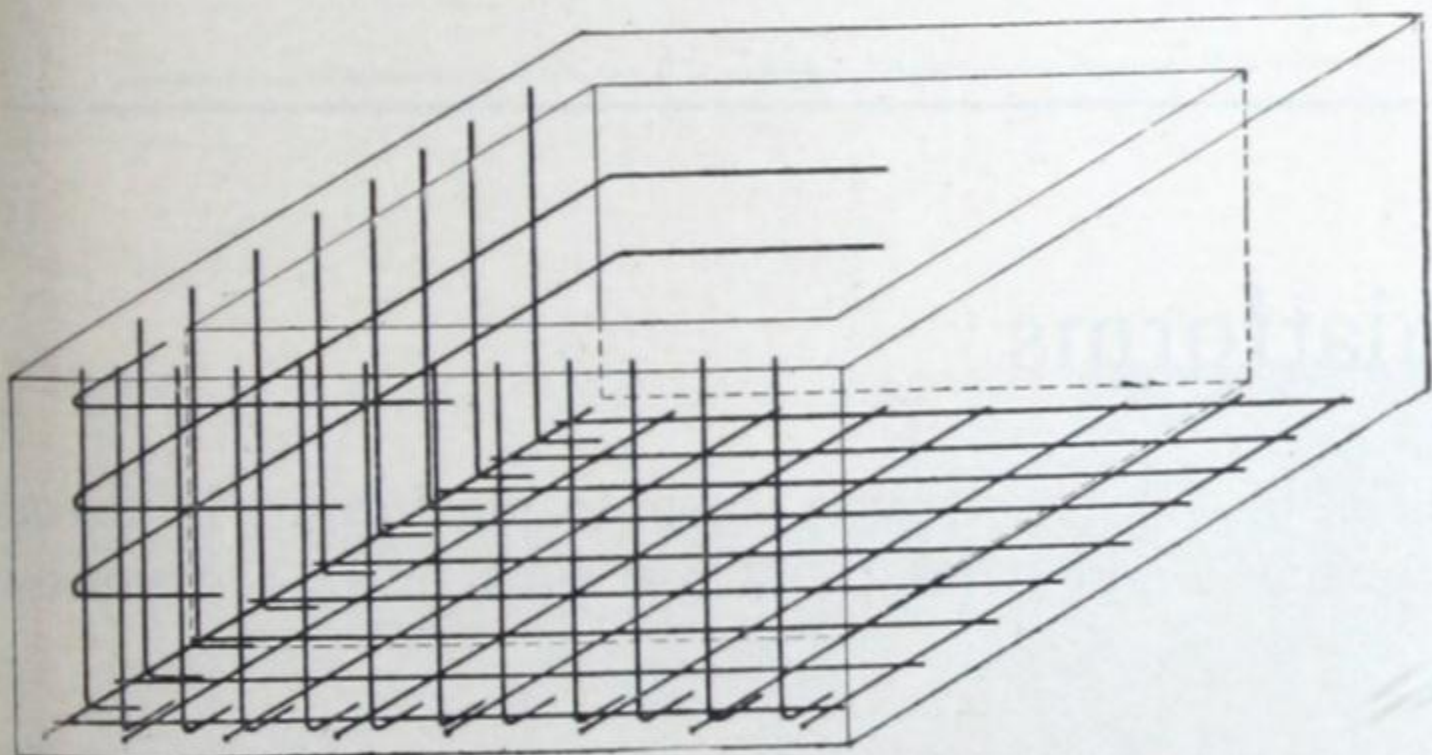

Fig. 120—Above and below—details of reinforcement, placement showing bends and turnups in corners.
*The reinforcement* may be woven wire fencing or  $\frac{1}{4}$ -inch round rods, spaced 6 inches apart each way (Fig. 120). When it is necessary to join ends of reinforcing bars, they should be overlapped at least 12 inches and tied together with wire.